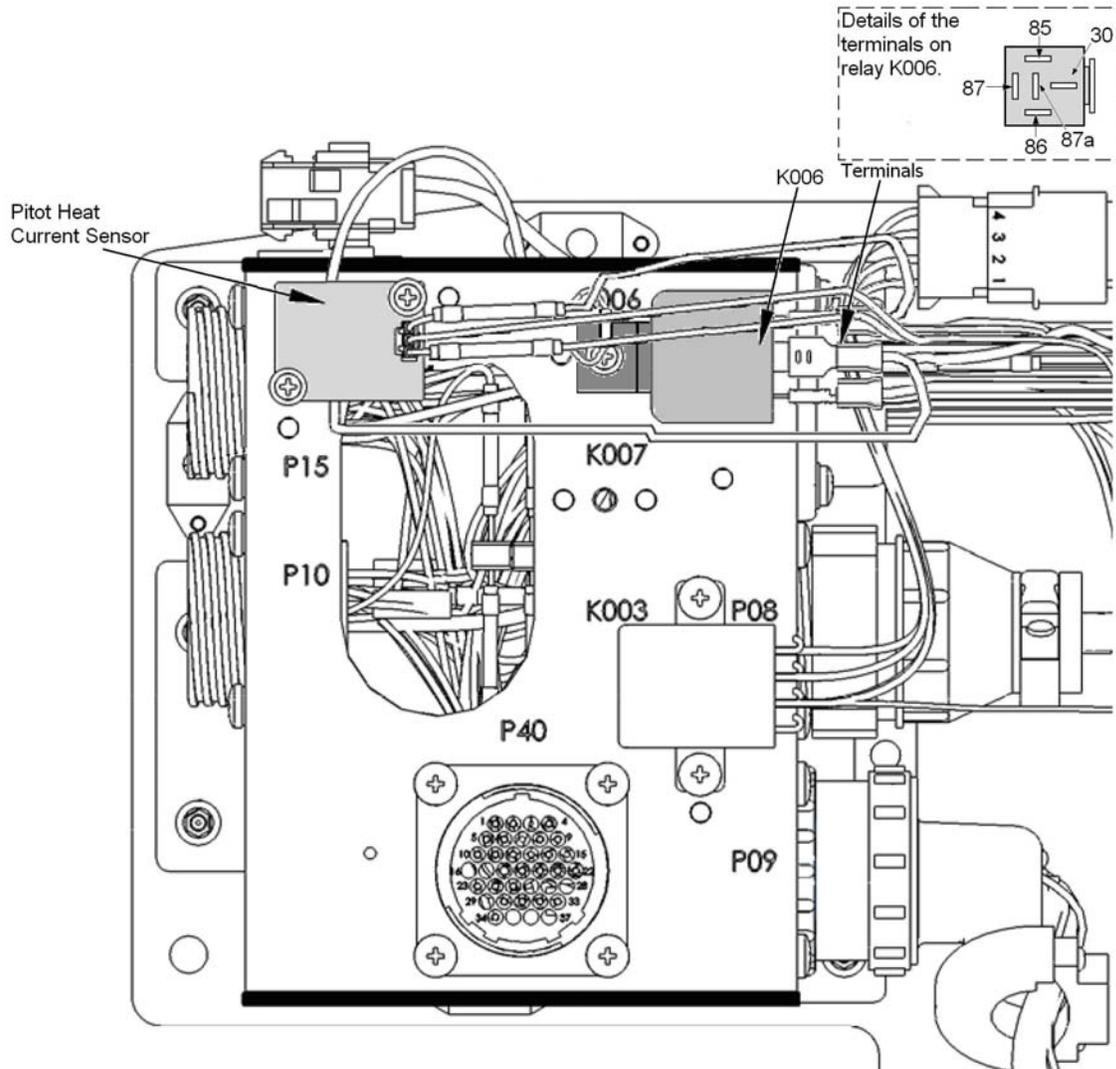

Figure 30-10 Location of the Pitot Heat Relay K006 Terminals
10. Connect wires to terminals on relay 006. See Figure 30-10 for the details of the location of terminals on relay K006.